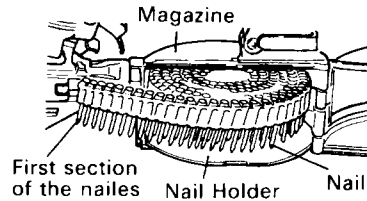

Fig. 8
- Insert the nails in the magazine (See Fig. 8).